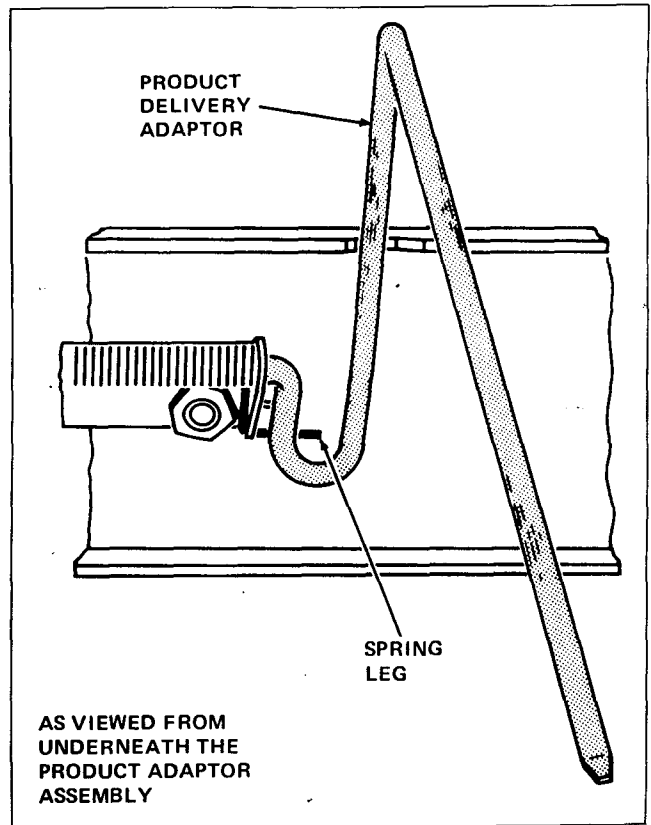

FIGURE 4
6. Move the Spring Leg behind the Product Delivery Adaptor so there is no tension upon the Product Delivery Adaptor. See Figure 4.